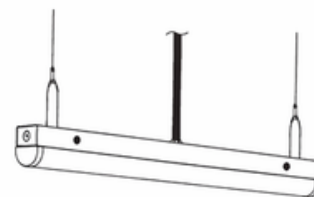

Figure 8
- Step4. Connect the wires according to safety requirements and then install the lamp body back to the chassis (Figure 8)